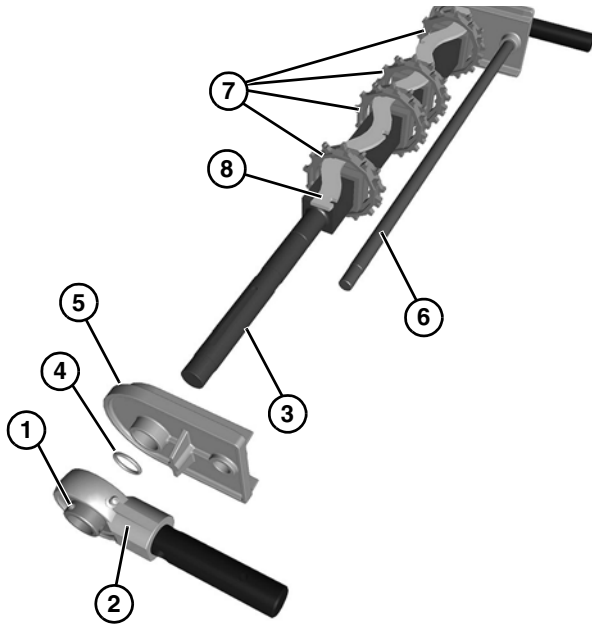

Figure 63
7. Use a hex wrench to loosen two set screws (Figure 63, item 1) on the bearing shaft assembly.
8. Slide the bearing shaft assembly (Figure 63, item 2) off the drive spindle (Figure 63, item 3).
When removing tracking plate, be certain not to lose O-ring (Figure 63, item 4).
9. Slide the tracking plate (Figure 63, item 5) off the drive spindle.
10. Remove pinch guard shaft (Figure 63, item 6).
11. Remove the sprockets (Figure 63, item 7) and alignment bar (Figure 63, item 8).